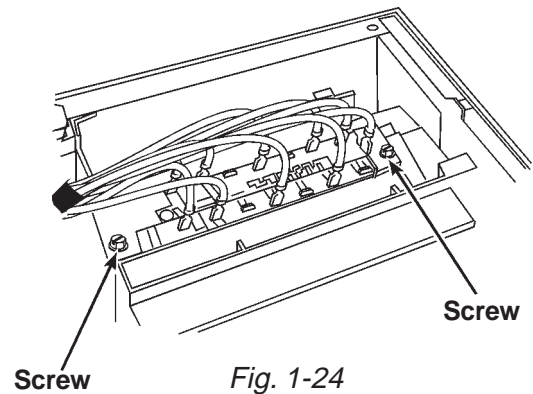

Fig. 1-24
2. Disconnect the harness wires from the spade connectors on the switch assembly. (Fig. 1-24)
3. Remove the two (2) Hex-head screws securing the switch assembly to the door frame. (Fig. 1-24) The switch assembly can now be removed.